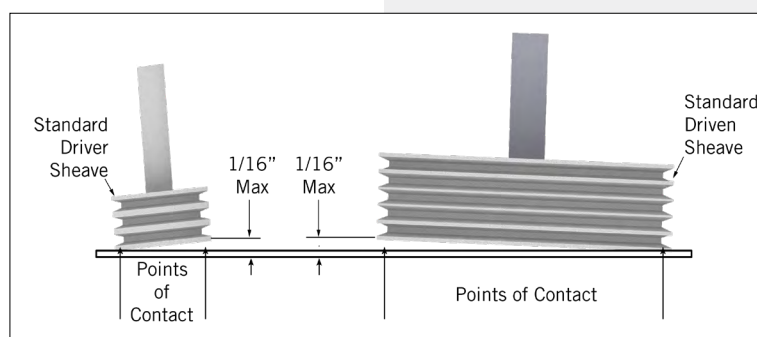
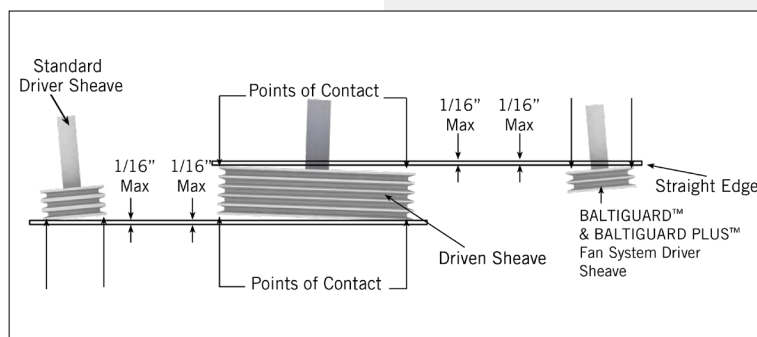

Figure 5a. Standard Drive Alignment
Figure 5b. BALTIGUARD™/BALTIGUARD PLUS™ Fan System Drive Alignment
- Place a straight edge across the driver and the driven sheaves as shown in **Figure 5a** for standard drives and in **Figure 5b** for the BALTIGUARD™ Fan System or the BALTIGUARD PLUS™ Fan System.
- The straight edge should contact all four points as shown in **Figure 5a** and **5b** indicating proper drive alignment.